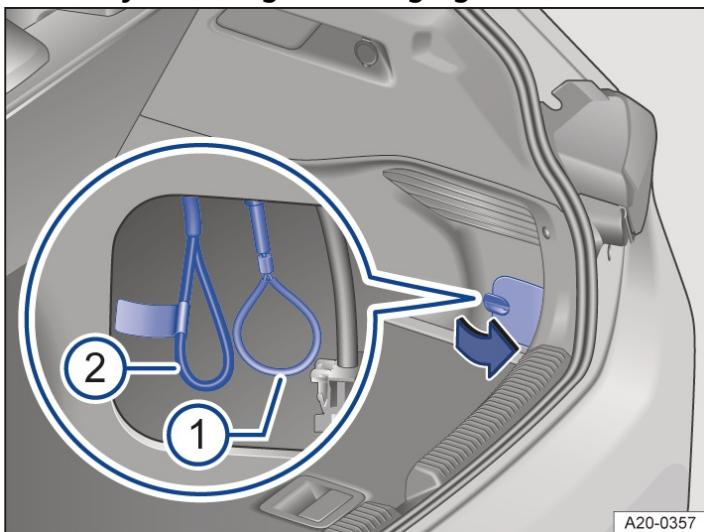

Fig. 1 Behind a flap in the right-hand luggage compartment trim: Manual release mechanism for the charging connector (1) and emergency cut-out connection (2).
- Open the luggage compartment. On the bottom right there is a flap with a catch → Fig. 1.
- Pull the loop for the manual release mechanism → Fig. 1 (1). The loop does not have a tag → ①! The charging connector can now be removed → ②.
There is a fuse loop for the high-voltage system for use by emergency services directly next to the loop for manual release → *Fig. 1* 2. The fuse is marked with a yellow tag → 1.